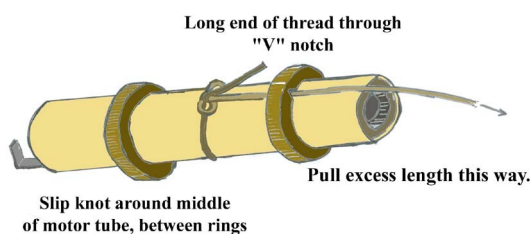

Figure 4
- **Step 12** Tie a slip knot in one end of the Kevlar thread as shown in Fig. 4 above. Slip this loop over the center of the long mount, then push the free end through the "V" notch from the back and pull the excess until the loop is tightly against the back of the ring. Do not crush the tube, just pull the loop tight. Apply a bead of glue to the thread loop, securing it to the ring. Allow to dry.